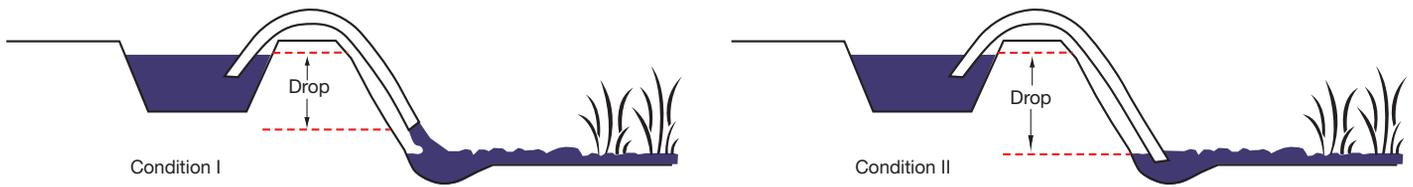

Figure 5. Diagrams where to measure the drop distance for siphon tubes. (Diagram by J.S. Jones, 2003).
**Counting Tubes:** If siphon tubes are used to irrigate out of an open ditch, an estimate of the flow rate can be obtained by counting the number of tubes. The size of the siphon tube and the distance from the water level in the ditch to the water level in the field (the drop) is needed to estimate the flow rate. Figure 5 shows two possible conditions. In Condition I (free flowing) the drop is the distance from the water level in the ditch to the end of the tube on the field side (usually level with the field). In Condition II (submerged), the drop is the distance from the water level in the ditch to the water level in the field. The larger the tube size or the greater the drop, the higher the flow rate. Table 6 shows some typical sizes and drops used for irrigation.